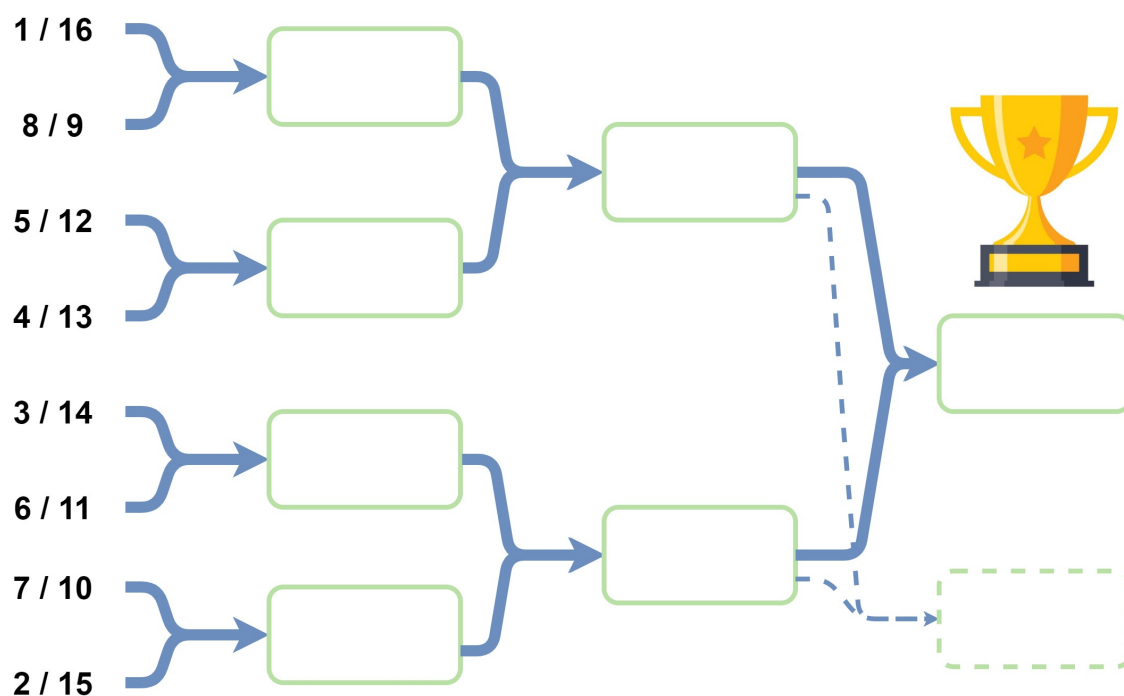

Figure 8: Tree of the final phase
Each team that wins its play-off match will be included in the main draw of the final phase of the match (B). At the end of the play-off phase, the tree of the final phase of the match (B) presented in Figure 8 may be revised to more accurately represent the level of each team.